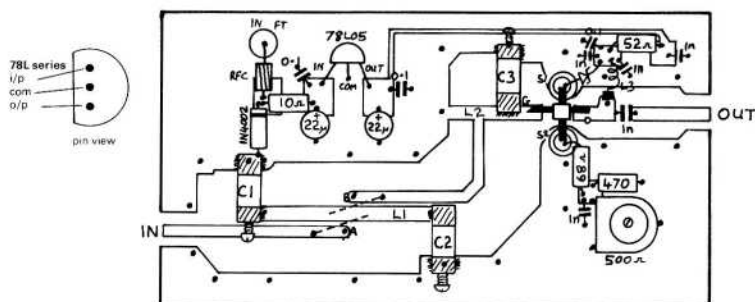

Fig.4
The circuit described here was developed to precede my CQ-TV (117) down converter but can, of course, be used in front of most converters, including narrow-band ones. The amplifier has been designed to work over the range 1200 - 1350MHz making it ideal for ATV applications. However, since, for performance reasons, a bandpass filter is incorporated in the design, a reasonably flat bandpass characteristic is normally available over only about half the above range. Consequently, to change from one end of the band to the other, Cs 1,2 and 3 need to be changed and the unit re-aligned. Fig.4 shows two dotted wires across the filter; these may be used if required and, when brought into close proximity, provide over-coupling of the bandpass filter so reducing the through loss and increasing overall bandwidth. This form of modification however will certainly reduce the amplifiers noise performance, although not usually to a significant degree.